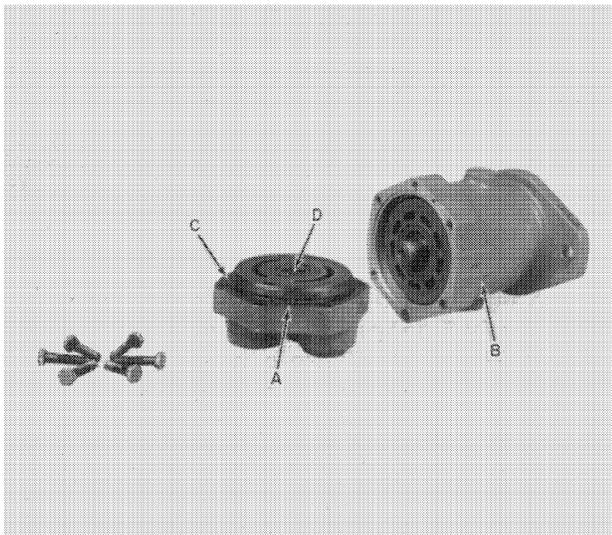
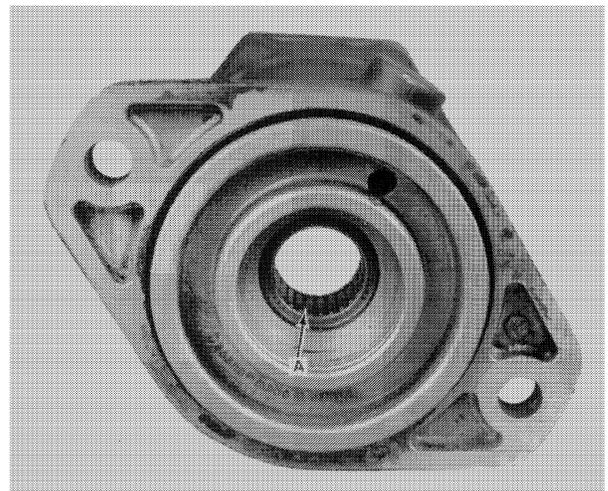

FIGURE 1-9
FIGURE 1-14
4. Remove the six cap screws to remove back plate, A, Figure 1-9, from housing assembly, B. Use a soft hammer to loosen the back plate and then pull the back plate straight out.
5. Remove O ring, C, Figure 1-9.
12. Remove needle bearings, D, Figure 1-9, and A, Figure 1-14, if they show wear or excessive play.
9. Install back plate, A, Figure 1-9. Align the roll pin in the hole in the housing. Install the cap screws and tighten to 15 ft. lbs.-18 ft. lbs. (20 N·m-24 N·m) torque.